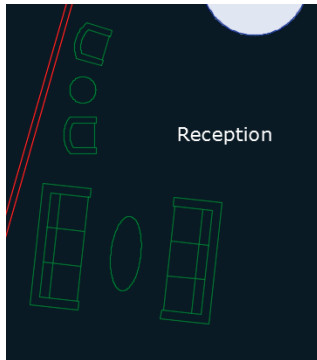

FIGURE 9.13 Two local block references redefined with a global block
7. The two sofas in Reception are redefined with the straight-back design (see Figure 9.13). Press Esc to cancel the INSERT command; you do not need to insert a new block reference.